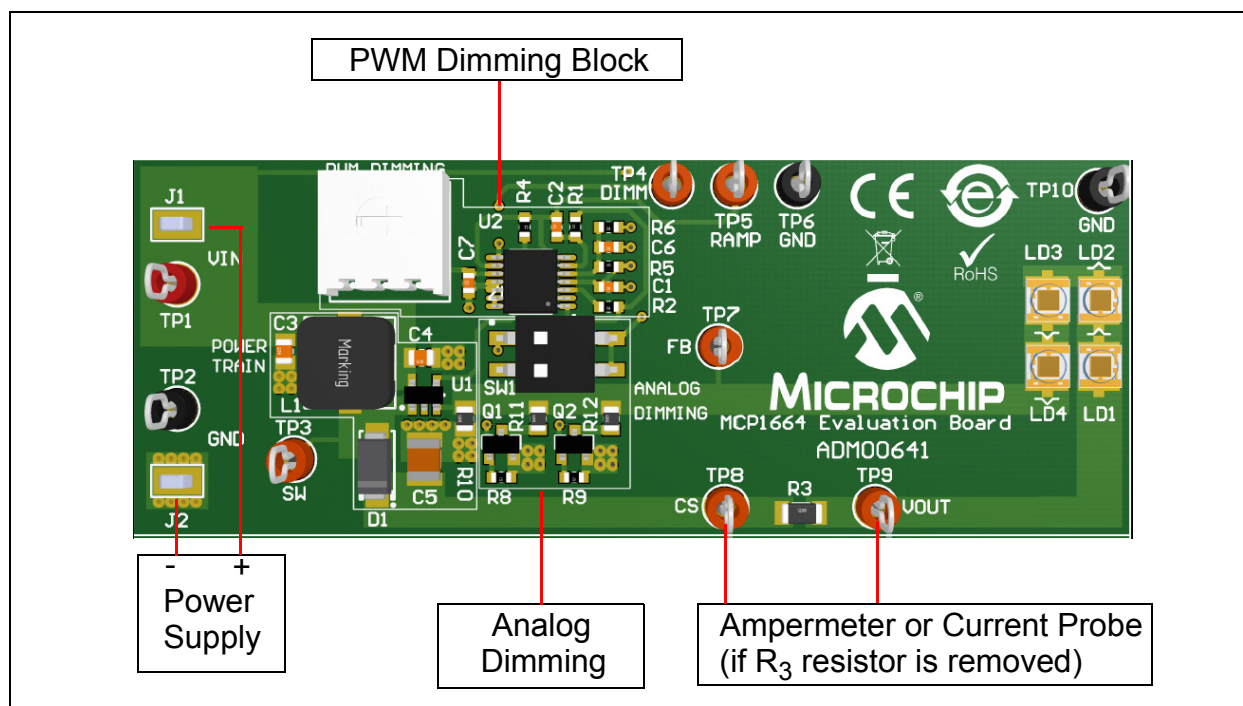

FIGURE 2-2: MCP1664 LED Driver Evaluation Board Setup.
1. Connect input supply as shown in Figure 2-2.